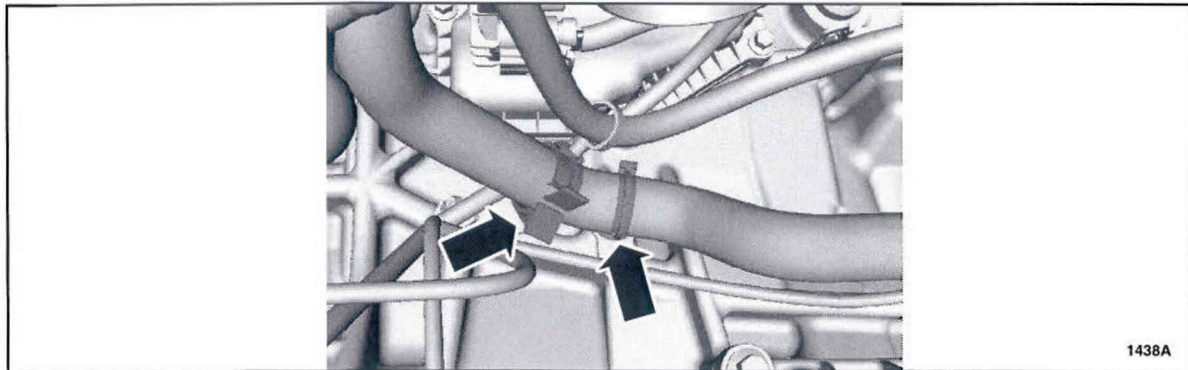

FIGURE 1
4. Remove the lower radiator hose retaining clip and detach the push pin retainer from the transmission. See Figure 1.